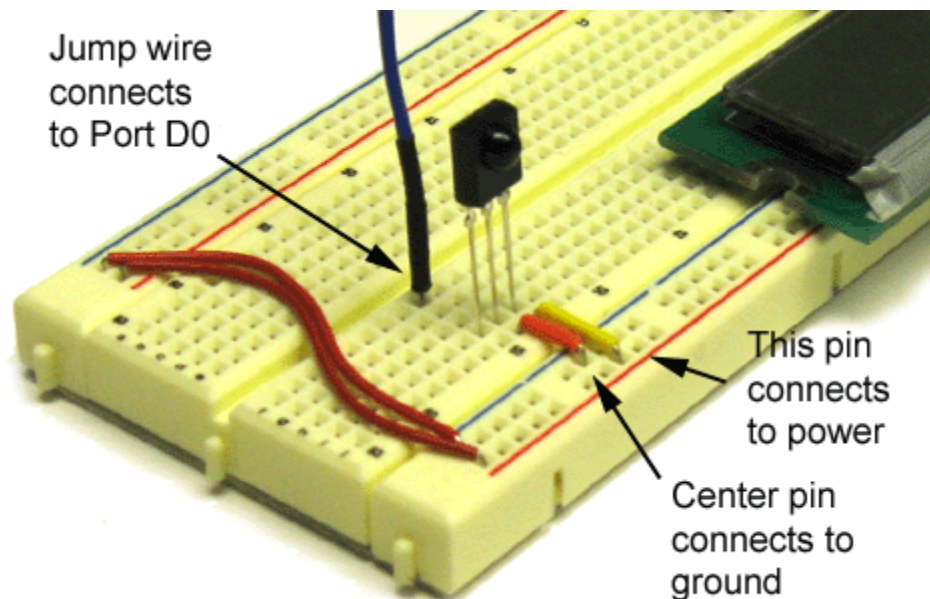

Figure 3. Infrared receiver properly installed.
2. Insert a short yellow jump wire, a short orange jump wire, a flexible blue jump wire, and the infrared receiver into the XBoard, as shown in the video to the right and in Figure 3. **NOTE: Make sure that the small shiny dome on the infrared receiver is oriented exactly as shown.**